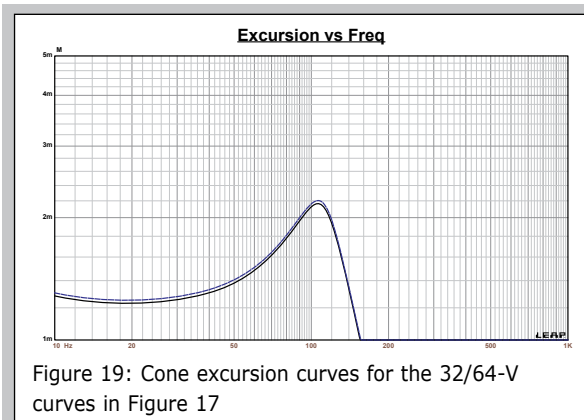

Figure 19: Cone excursion curves for the 32/64-V curves in Figure 17
Figure 17 shows the results for a single G12H(55) in a 1.15-ft³ sealed box and for four G12Hs in a 4.6-ft³ sealed enclosure at both 2.83 V and at a voltage level sufficient to increase the excursion to 2.19 mm ($X_{MAX} + 15\%$). This calculation resulted in a F3 frequency of 106 Hz ($F_6 = 87$ Hz) for both simulations. Increasing the voltage to 32 V for the single G12H simulation and 64 V with the four G12H driver simulation resulted in 115 dB for the single driver and 122.6 dB for the Marshall half-stack four driver simulation. **Figure 18** shows the 2.83-V group delay curves. **Figure 19** shows the 32-V/64-V excursion curves.